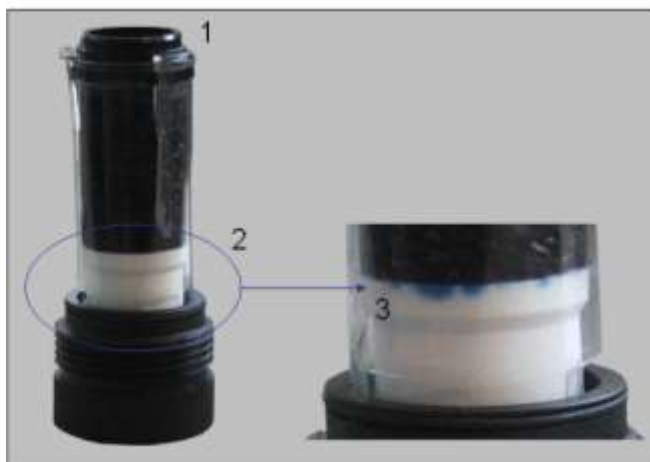

Figure 36: Activated carbon filter
The activated carbon filter frees combustion air and zero gas of hydrocarbons. This filter works depending on the ambient air and continuous operation for a limited period of time. The device does not detect aware of this filter. To check whether the proper function of the carbon filter is given, unscrew the facing of the filter at the side wall (see No. 13 - Figure 4: SmartFID's side wall on page 15) and remove it from the socket. Figure 36 shows the removed carbon filter (No. 1). Please check the white box indicated in the middle of the filter (No. 2) for discoloration. In case of a discoloration (3) the filter needs to be replaced.